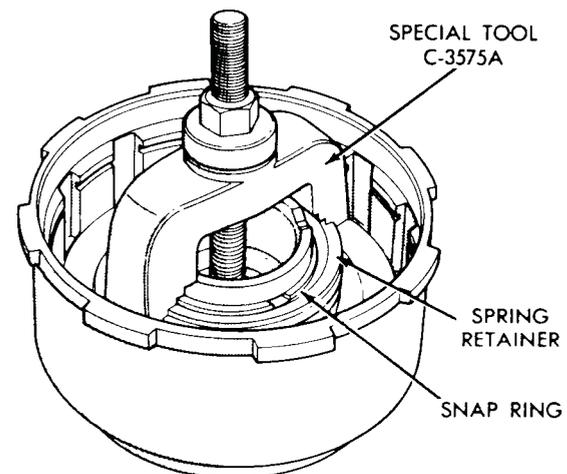
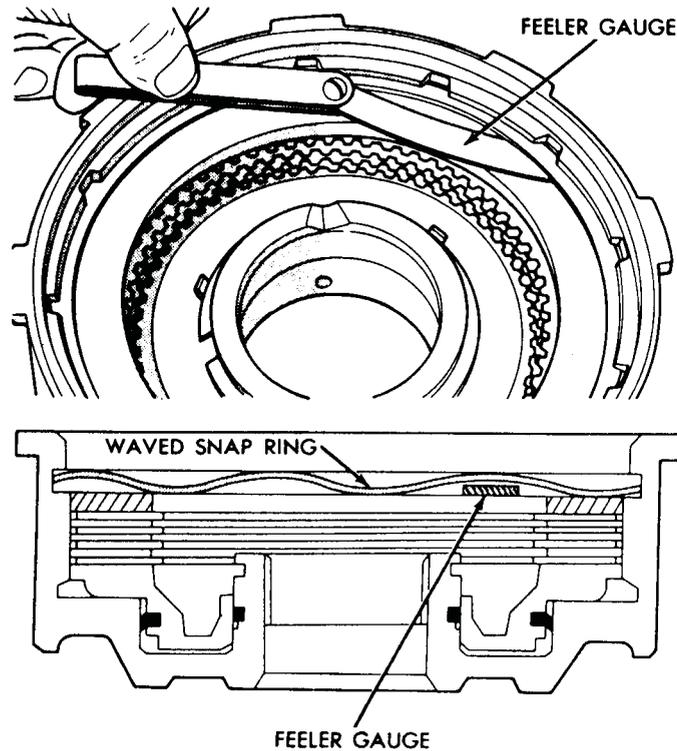

Fig. 14—Front Clutch Spring Retaining Snap Ring
Fig. 16—Measure Front Clutch Plate Clearance
(1) Remove large waved snap ring that secures pressure plate in the clutch piston retainer. Lift pressure plate and clutch plates out of the retainer.
(2) Install compressor Tool C-3575A, over piston spring retainer (Fig. 14). Compress spring and remove snap ring, then slowly release tool until spring retainer is free of the hub. Remove tool, retainer, and spring.
(3) Invert clutch retainer assembly and bump it on a wooden block to remove the piston. Remove seals from the piston and clutch retainer hub.
(2) Install outer seal on the clutch piston, with lip of seal toward bottom of clutch retainer. Apply a coating of wax type lubricant or Door Ease to outer edge of seals and press seal to bottom of its groove around piston diameter for easier installation of piston assembly. Place piston assembly in retainer and carefully seat piston in bottom of retainer.
(3) Place spring on piston hub and position spring retainer and snap ring on the spring. Compress spring with Tool C-3575A (Fig. 14), and seat snap ring in hub groove. Remove compressor tool.
(4) Lubricate all clutch plates, install one steel plate followed by a lined plate (disc) until the number given in specifications is installed. Install pressure plate and snap ring. Make sure snap ring is properly seated.
(5) Insert a feeler gauge between pressure plate and waved snap ring to measure maximum clearance where snap ring is waved away from pressure plate (Fig. 16). See "Specifications" for allowed clearance.